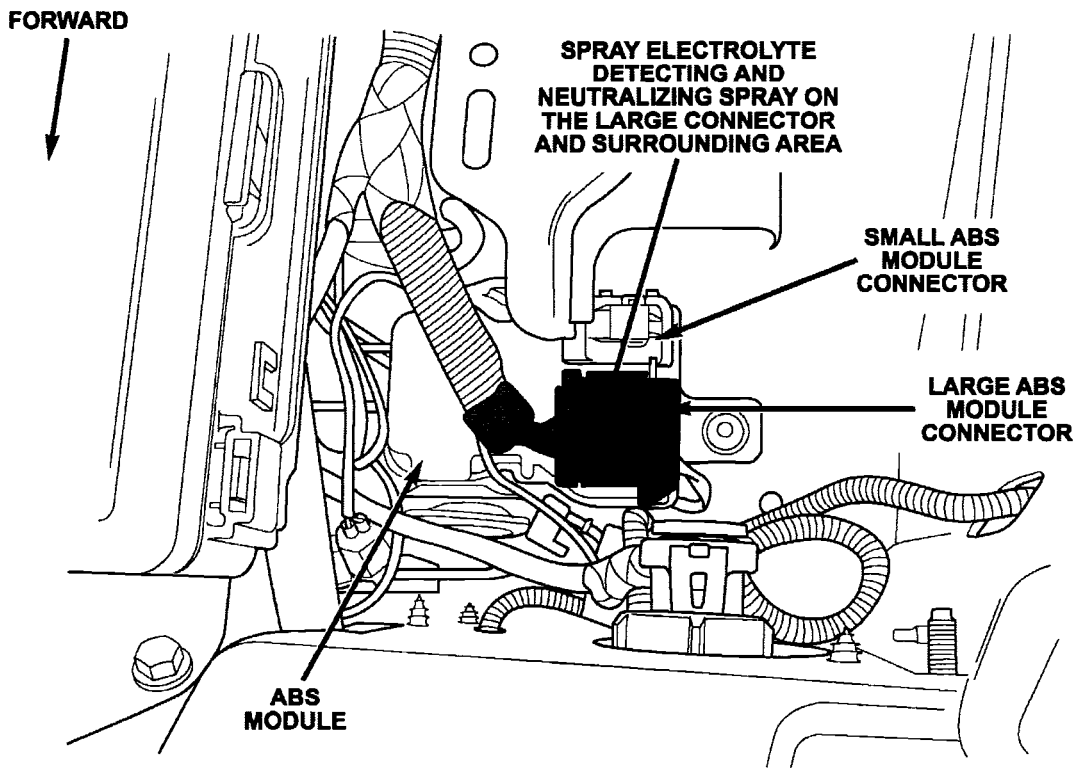

Figure 6
14. In the area below the battery location, inspect the front (large) wiring harness connector on the ABS control module for acid damage, by spraying the connector and surrounding area with the provided Electrolyte Detection and Neutralizing Spray (Figure 6).